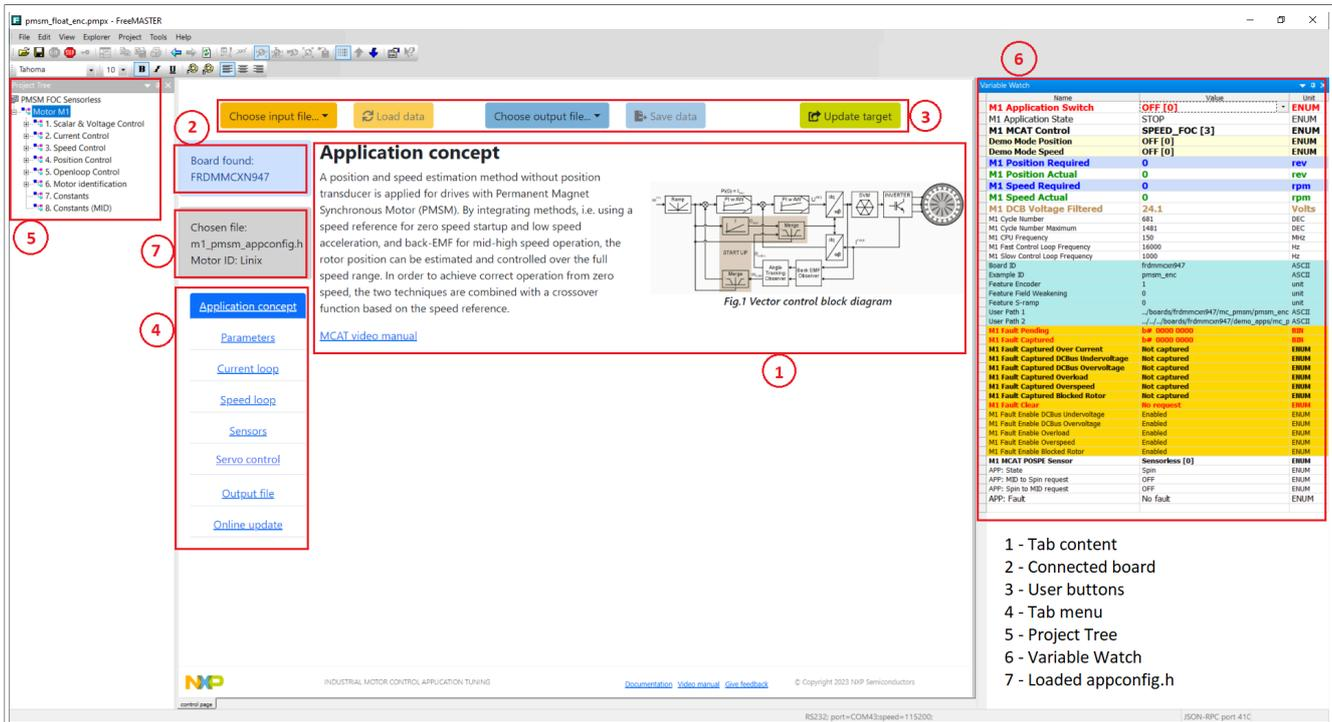

Figure 14. FreeMASTER and MCAT layout
The PMSM sensor/sensorless FOC application can be easily controlled and tuned using the Motor Control Application Tuning \(MCAT\) plug-in for PMSM. The MCAT for PMSM is a user-friendly page, which runs within FreeMASTER. The tool consists of the tab menu and workspace, as shown in Figure 14. Each tab from the tab menu (4) represents one submodule, which enables tuning or controlling different application aspects. Besides the MCAT page for PMSM, several scopes, recorders, and variables in the project tree (5) are predefined in the FreeMASTER project file to further simplify the motor parameter tuning and debugging.